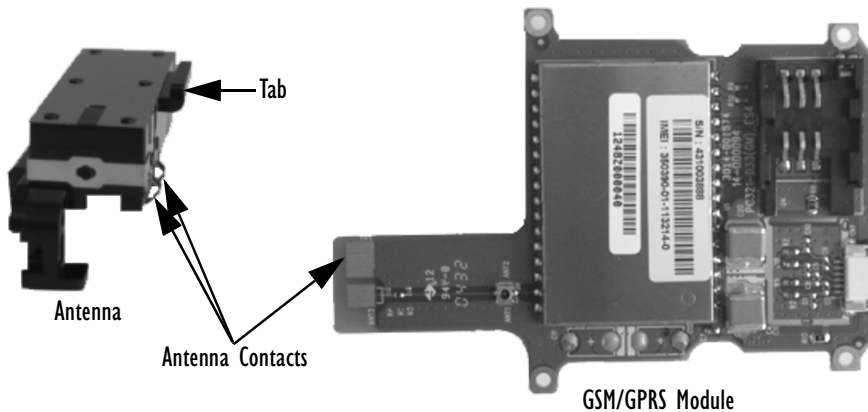
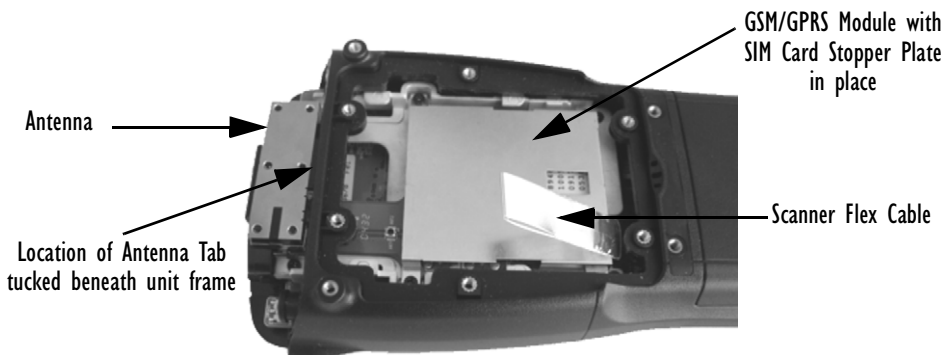

Figure 8.7 Installing The Antenna
Figure 8.8 An Installed GSM/GPRS
- Fit the antenna at the top of the unit making certain that the antenna contacts are aligned with the contacts on the GSM/GPRS module (see Figure 8.7). Ensure that the tab at the top of the antenna is inserted under the lip of the WORKABOUT PRO's black plastic frame (Figure 8.8).